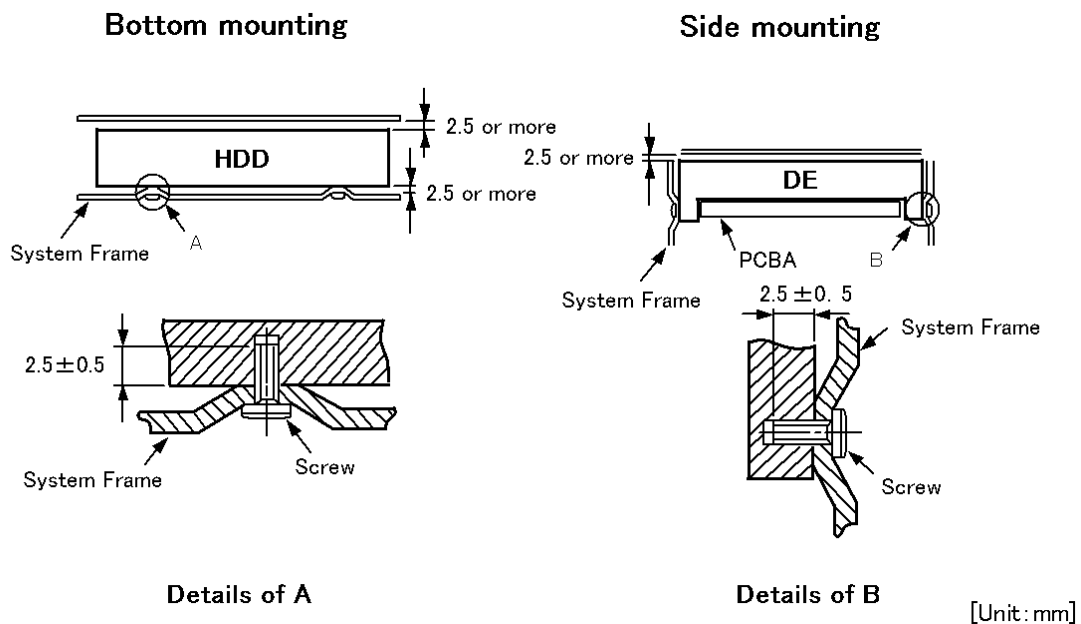

Figure 4.3 Mounting frame structure example
- The frame never touches any components on the PCBA of the HDDs. For example as shown in Figure 4.3, mount the HDDs with a gap of 2.5 mm or more from the frame.